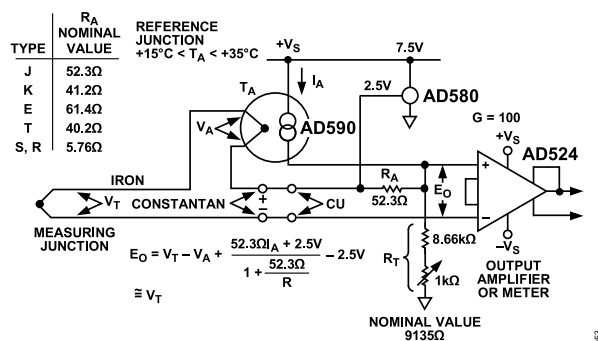

Figure 53. Cold Junction Compensation
Figure 53 shows a simple application in which the variation of the cold junction voltage of a Type J thermocouple-iron  $\pm$  constantan is compensated for by a voltage developed in series by the temperature sensitive output current of an AD590 semiconductor temperature sensor.
5. For other ranges of ambient temperature, the equation in Figure 53 may be solved for the optimum values of  $R_T$  and  $R_A$ .